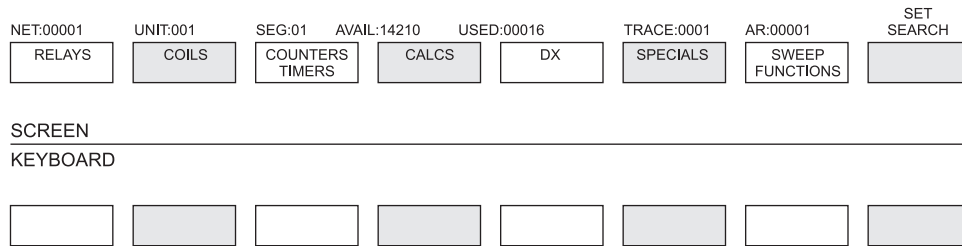

Figure 5-5
- Use the software label keys and right and left arrow keys to select the commands needed to modify the program. See *Figure 5-5*.